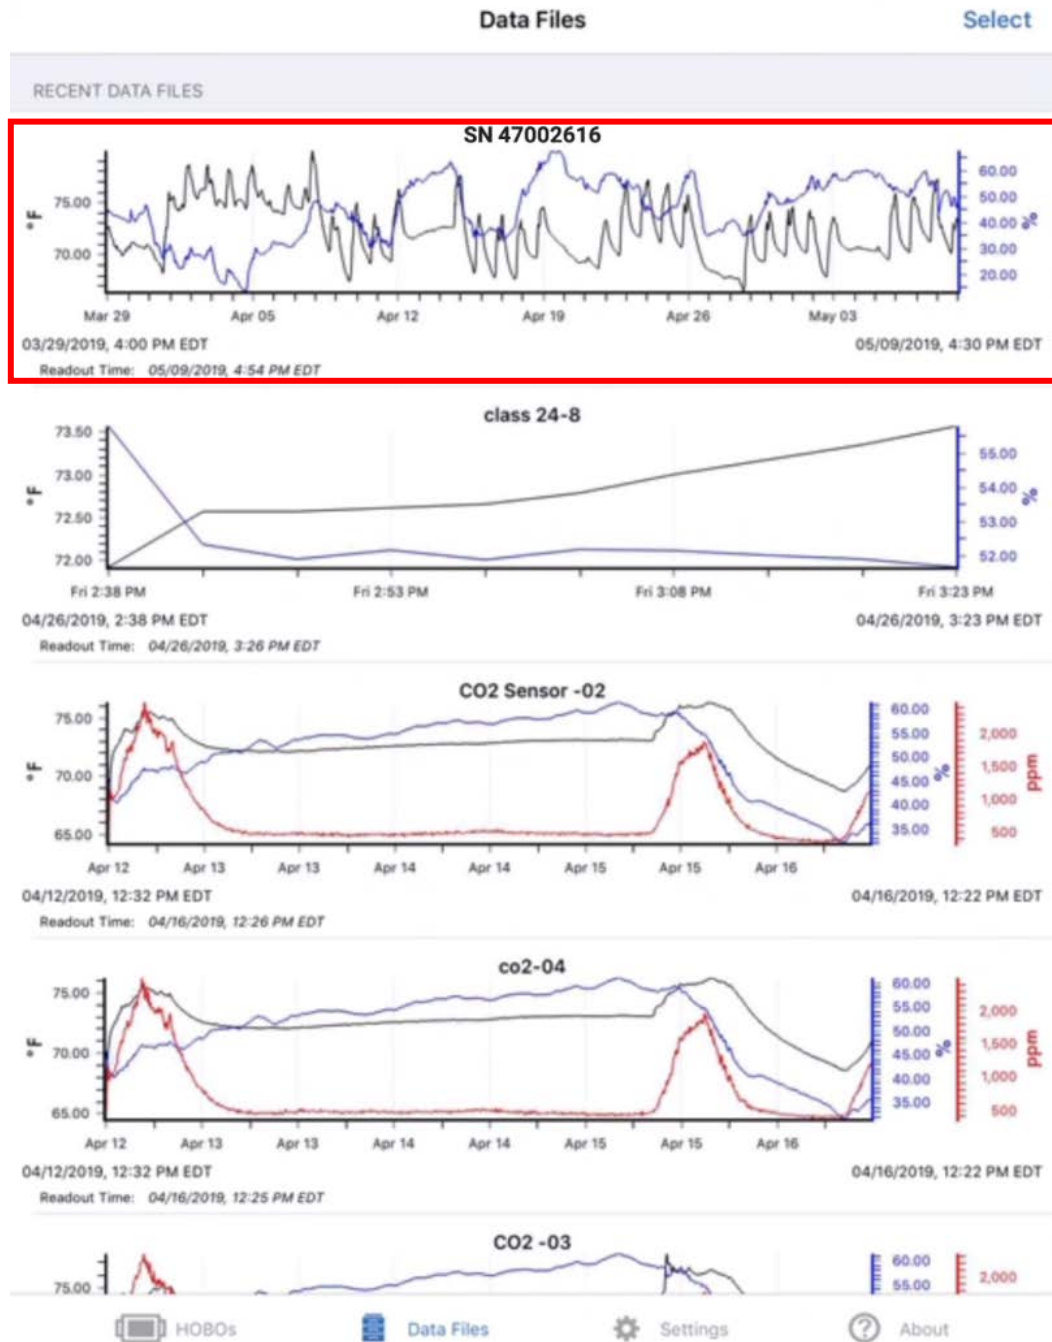
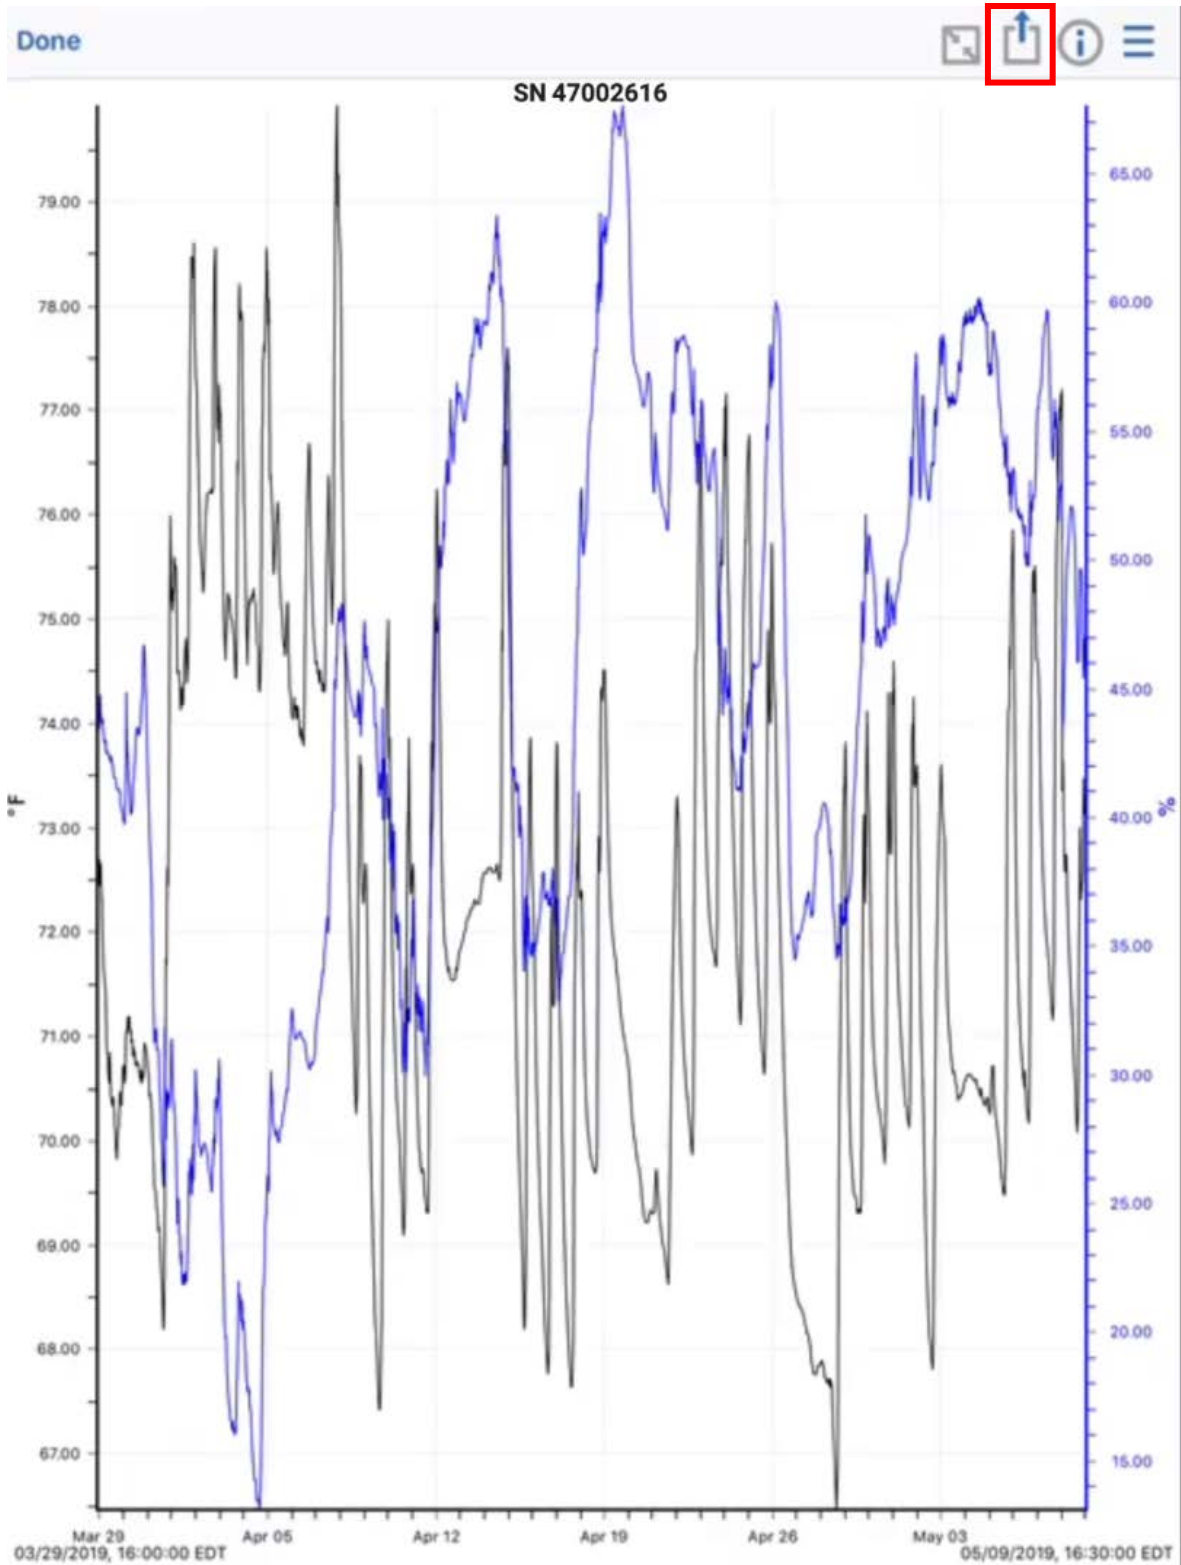

Figure A.7.17: The “Data Files” screen.
Figure A.7.18: The larger graph.
4. At the “Data Files” screen as shown on Figure A.7.17, tap on the graph that has the name that you set at step 2.a of section A.7.2. For this guide, the name was left as the default name of the MX2301 Data Logger, which is boxed in on Figure A.7.17. Tapping on the small graph will bring you to the larger graph as shown on Figure A.7.18.
5. On the larger graph as shown on Figure A.7.18, you can closely inspect the data by zooming in and out with your fingers, or turning the device to landscape mode if currently in portrait mode.
6. Tap on the “Share” icon, which is boxed in on the top right of Figure A.7.18. This will take you to the “Share” screen.